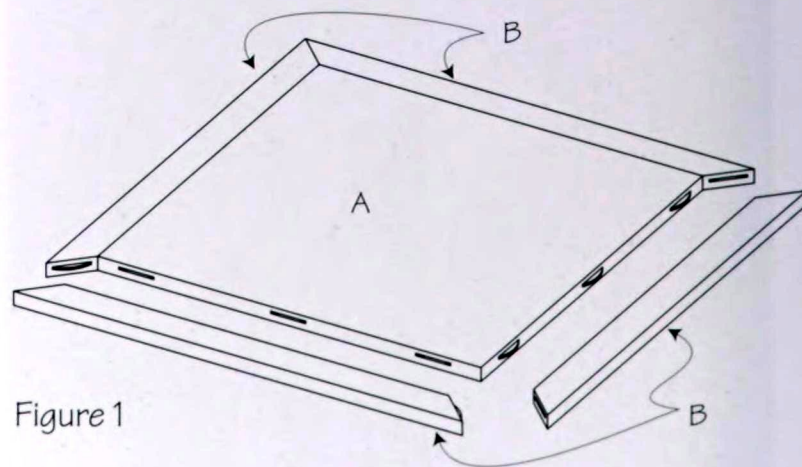

Figure 1
1. Either purchase plywood with a suitable face veneer or veneer a piece of $\frac{3}{4}$ " plywood with madrone burl. A 2' x 3' piece will be sufficient for the top center (A) and the base center (C). Remember to veneer both faces for stability. (Refer to Simple Veneering on page 18 for help.)
3. Flatten, thickness, and joint enough stock for the top edges (B). (Refer to Flattening, Thicknessing, and Jointing on page 8.) Rip and joint the pieces to 1 $\frac{3}{4}$ " wide.
4. Using a table saw or miter box, miter the ends of the top edges (B) to fit around the top center (A). See figure 1. Work your way around the top, fitting each